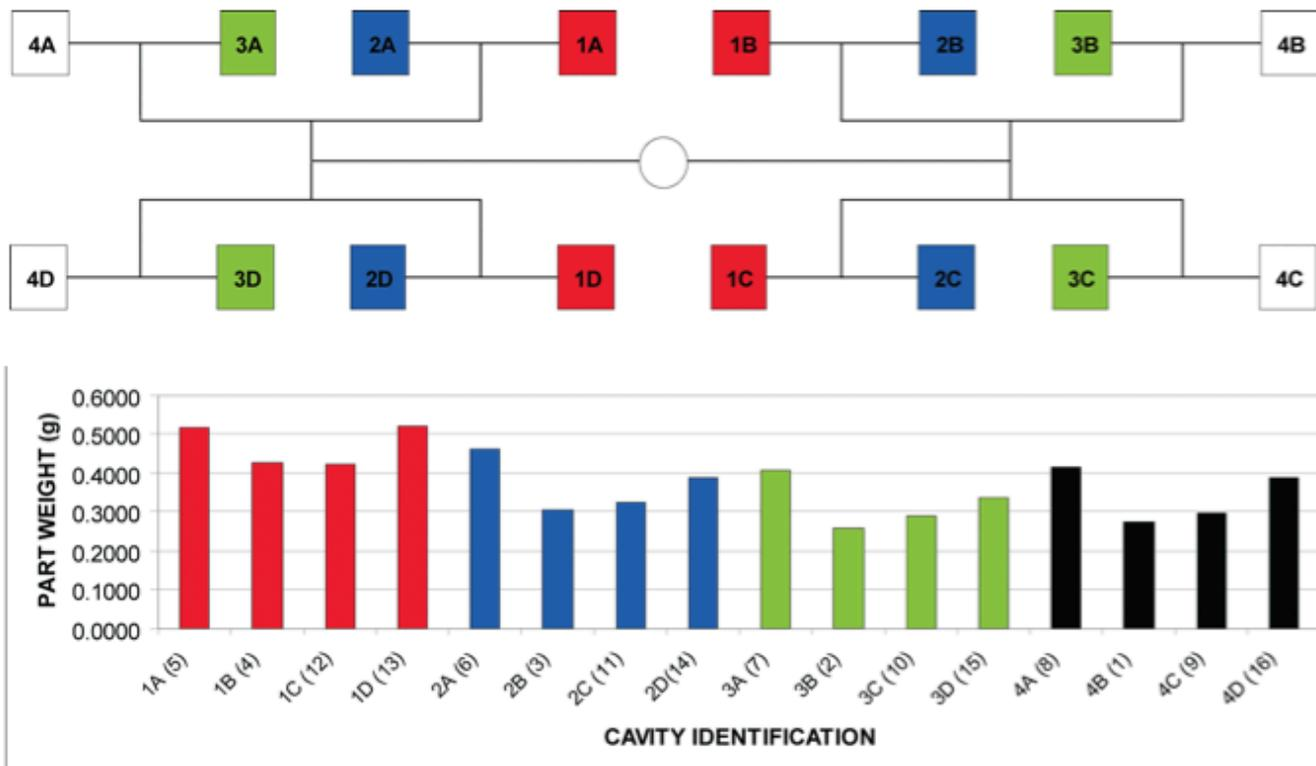

Figure 3
**Figure 3** was created using the same data but now we are looking at it according to Flow Group ID's. This allows us to easily identify a pattern in which the cavities in the A & D Regions were the heaviest cavities in all Flow Groups. We then kept asking the question "what would cause this to happen?" until the root cause was found, which ultimately led to identifying a variation of  $.006\text{æ}$  (.152 mm) in one half of the primary runner. The larger primary runner was on the left side of the sprue (Regions A & D), which correlates with the data according to the pressure drop equation.